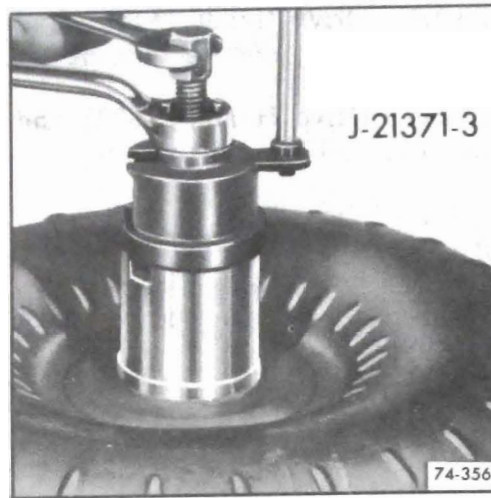

Figure 76-744
b. Install Tool J-21371-3 and tighten hex nut. See Figure 76-744.